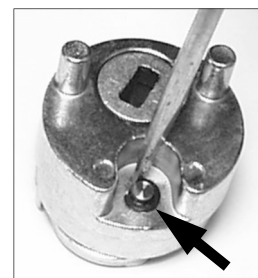

Fig. 2a: Remove retaining ring.
- 2a. **Remove the retaining ring with a small tool such as screwdriver or small needle-nose pliers** (see Fig. 2a).